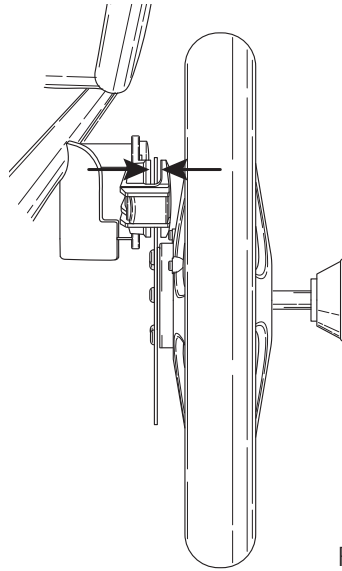

Fig. 2
3. Lift the buggy up slightly with one hand and, using the other hand, position the wheel so that the disc brake is located between the two black brake pads and the QR axle can be pushed into the axle tube. (Fig. 2)
2. Slide the brake disc out from between the two brake pads, then remove the entire wheel. (Fig. 2)